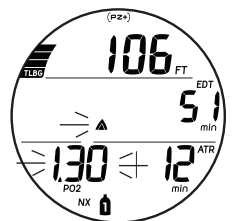

Fig. 112 - PO2 ALARM (during audible)
**PO2 Alarm Main**, information includes (Fig. 112) -